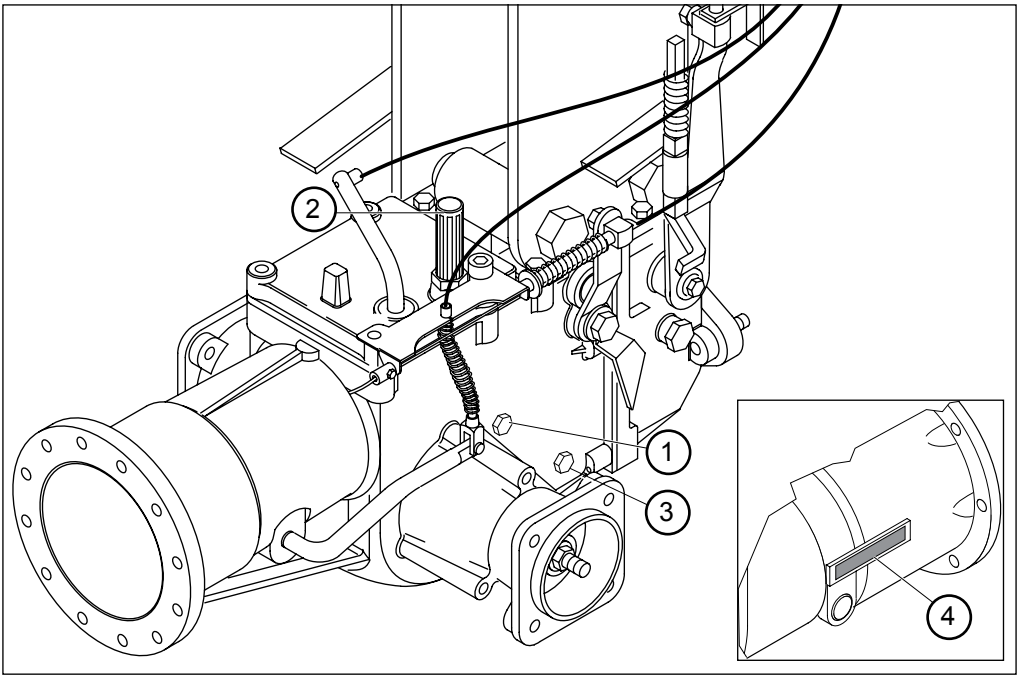

Fig. 8
**Figure 8 - Replacement gearbox oil.** - 1) oil level plug. - 2) Vent plug and fill; removing the fill plug from its mounting hole to the change, you can top up or replace the gearbox oil. - 3) Gearbox oil drain plug (is positioned on the opposite side to the one represented on figure). - 4) Machine serial number.